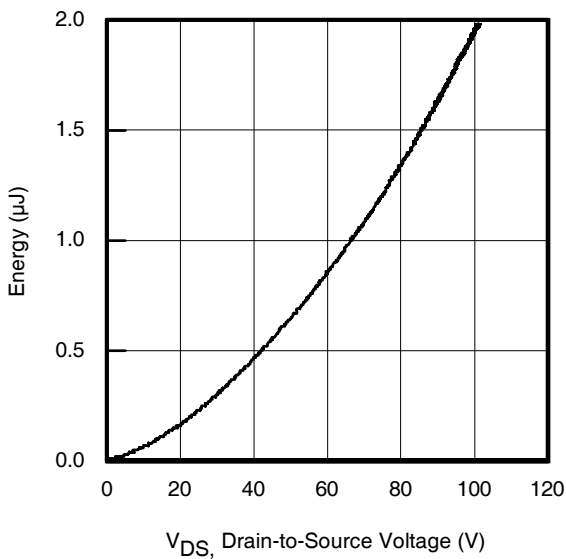

Fig 11. Typical  $C_{OSS}$  Stored Energy
| $C_{oss \text{ eff. (ER)}}$ | Effective Output Capacitance (Energy Related) | —    | 420  | —    |       | $V_{GS} = 0V, V_{DS} = 0V \text{ to } 80V$ ⑦, See Fig. 11 |